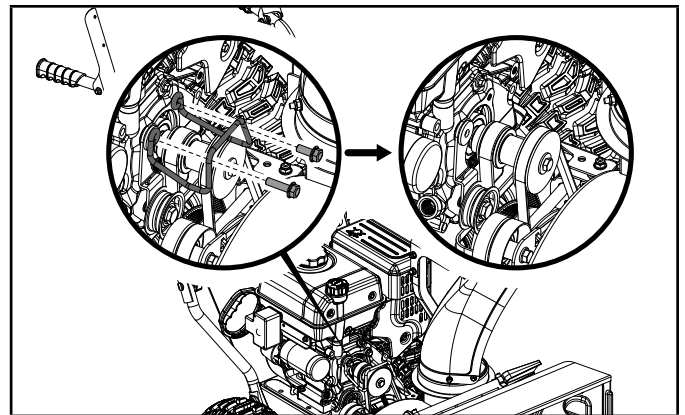

Figure 42
5. Remove the 2 bolts (20 mm/30 mm) holding the belt guard (Fig. 42). Note the spring is loose at this point.